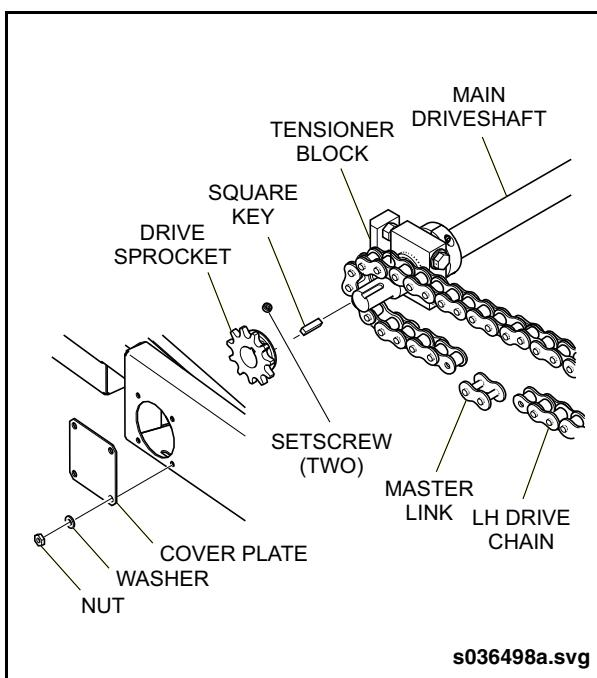

Fig. 20-10: Drive Chain &amp; Sprocket
4. Disconnect the master link on the LH and RH drive chains and lift chain from sprockets. See "Fig. 20-10: Drive Chain & Sprocket" on page 17.